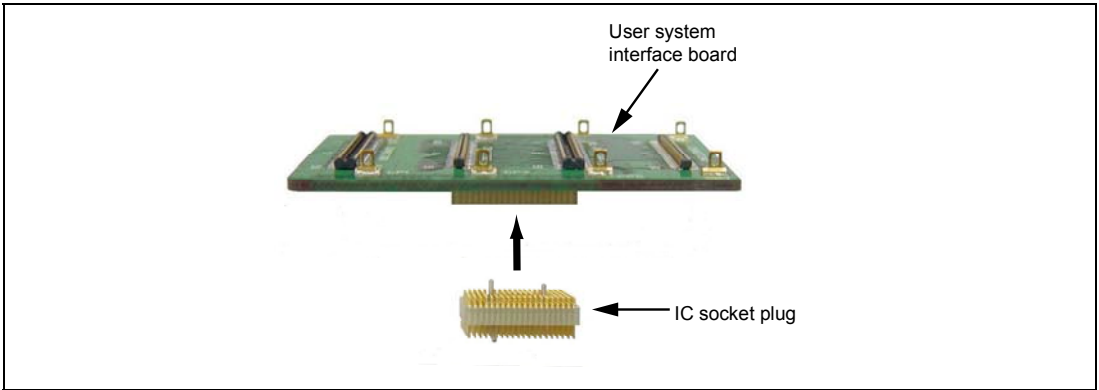

Figure 2.6 Connecting the User-System Interface Board and IC Socket Plug
3. Plug the IC socket plug into the user-system interface board as shown in figure 2.6.
Note: Although figures 2.6 to 2.8 illustrate settings for the SH7450 and SH 7451 groups, the same settings are applicable for connecting the debug MCU board, user-system interface board, and user system in the case of products of the SH7455 and SH 7456 groups.